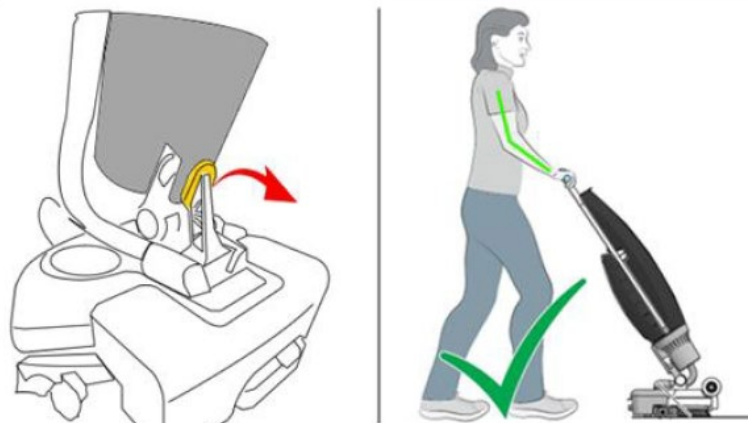

Fig. 10
12. Optional you can use the parking and driving support. This parking and driving support will make it possible to park the i-mop@lite in vertical position but it also makes it easy to drive forward with a reduction of weight being forced on the user. (Fig.10)